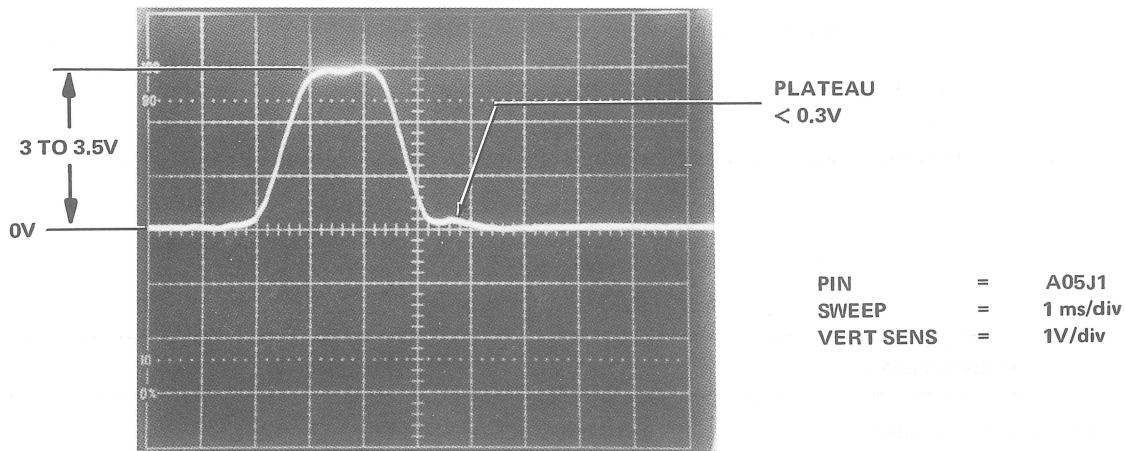

Figure 5-17 Outer Limit Waveform
- Set the scope vertical sensitivity to 1V/div and observe A05J1 (LIMIT) for a scope display as illustrated in Figure 5-17. The waveform peak amplitude must be 3 to 3.5V with a minimum level of 0V. In addition, the voltage plateau immediately following the trailing edge must not exceed 0.3V. If not, perform the Static Limit Adjustment procedure (Paragraph 5.4.2.2).